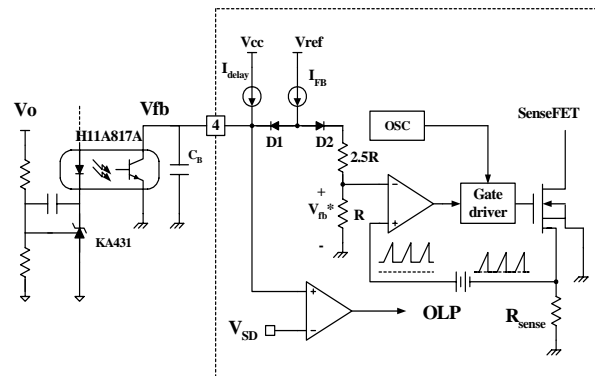

Figure 5. Pulse width modulation (PWM) circuit
**2. Feedback Control :** FSDM0565RB employs current mode control, as shown in Figure 5. An opto-coupler (such as the H11A817A) and shunt regulator (such as the KA431) are typically used to implement the feedback network. Comparing the feedback voltage with the voltage across the Rsense resistor plus an offset voltage makes it possible to control the switching duty cycle. When the reference pin voltage of the KA431 exceeds the internal reference voltage of 2.5V, the H11A817A LED current increases, thus pulling down the feedback voltage and reducing the duty cycle. This event typically happens when the input voltage is increased or the output load is decreased.
**2.1 Pulse-by-pulse current limit:** Because current mode control is employed, the peak current through the Sense FET is limited by the inverting input of PWM comparator (Vfb\*) as shown in Figure 5. Assuming that the 0.9mA current source flows only through the internal resistor (2.5R + R = 2.8 kΩ), the cathode voltage of diode D2 is about 2.5V. Since D1 is blocked when the feedback voltage (Vfb) exceeds 2.5V, the maximum voltage of the cathode of D2 is clamped at this voltage, thus clamping Vfb\*. Therefore, the peak value of the current through the Sense FET is limited.